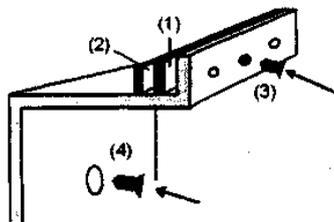

Figure 6: Fixing of the thread rail
Fix the plastic rail (1) and thread rails (2) to the top and bottom of the mounting angle using the M 2,5 countersunk screws (3) as shown in figure 6.